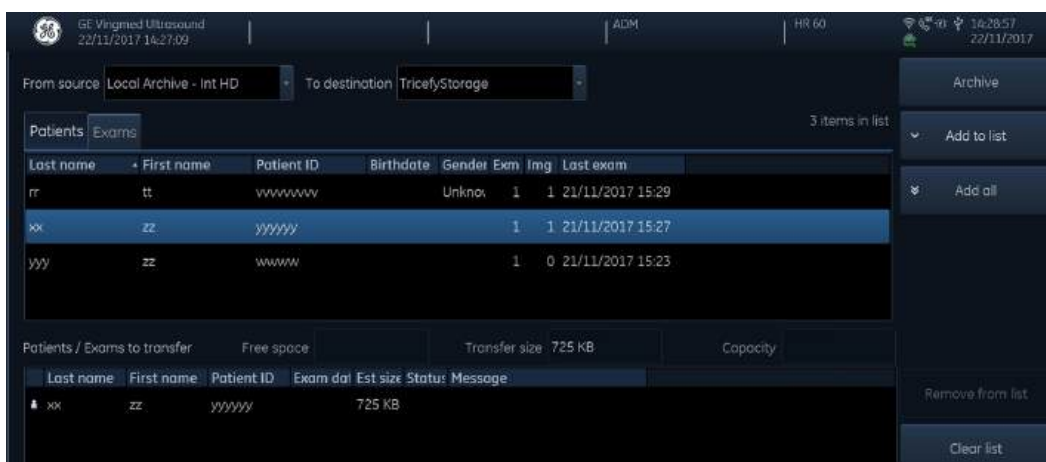

Figure 10-77. The Transfer screen
4. Press **Copy** (see Figure 10-77). The exam data is sent to the Tricefy website (https://tricefy4.com/users/sign_in).